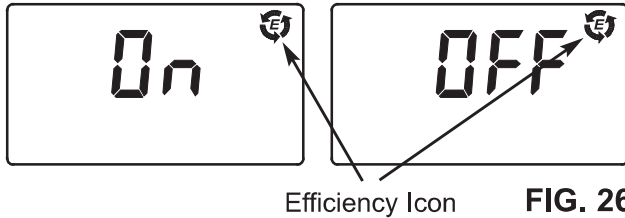

FIG. 26
2. Once in this display, press the SELECT button once and one of the two displays in Figure 26 is shown.